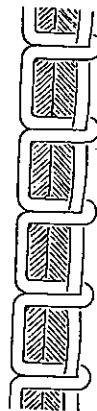

Fig. 12
- If tension of needle (upper) thread is too loose, or tension of bobbin (lower) thread is too tight, bobbin thread will lie straight along underside of fabric and needle thread will be pulled down to underside, being visible there in form of loops or small knots (Fig. 12). To correct this condition, make certain that the presser foot is down, then turn Tension Regulating Nut in front of Tension Discs, *to the right*.